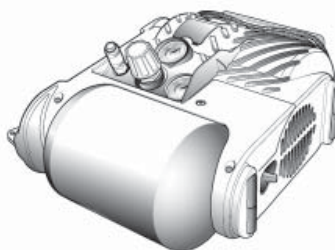

Fig. 5A
- Compressor must be operated laying flat as shown in Fig. 5A.